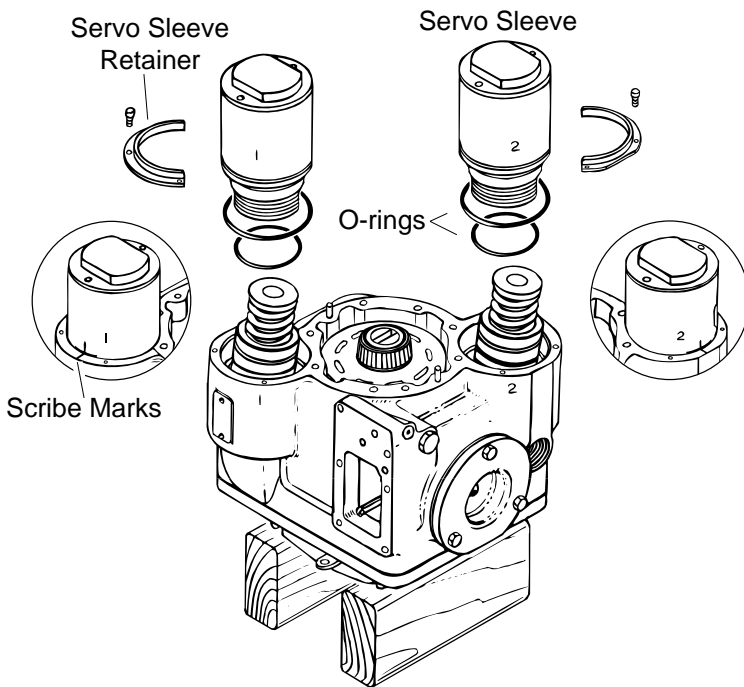

Figure 7
**25** Scribe position marks on each servo sleeve; Make a horizontal line where the servo sleeve and pump housing meet. Then make a vertical line that starts on the servo sleeve and ends on the housing, see figure 7. These marks will indicate how far to screw the servo sleeves in during reassembly.